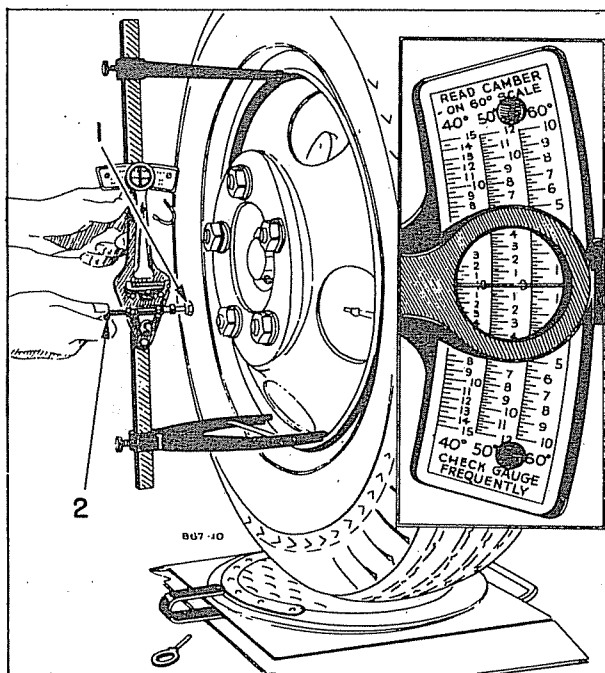

Fig. 10—Checking Camber.
- (1) Place the wheels in the straight ahead position, with the weight of the truck on the wheels and the front end of the truck level.
- (2) Assemble gauge so that the quadrant is at right angles to the wheel, as shown in Figure 10).
- (3) Adjust the secondary screw so that the pointer lines up with the scratch mark.
- (4) Adjust the primary screw so that the spirit level bubble is centred.
- (5) Take the camber reading in degrees on the scale. Always use the 60 degree section of the quadrant for checking camber. If the wheel is not true, turn it 180 degrees and take